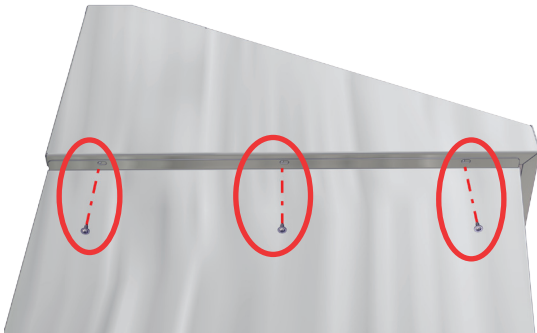

Fig. 8: Remove screws from sink sides
7. Use the Phillips screwdriver to remove the three screws from the underside of the left side basin shroud (Fig. 8). Do the same for the right side.